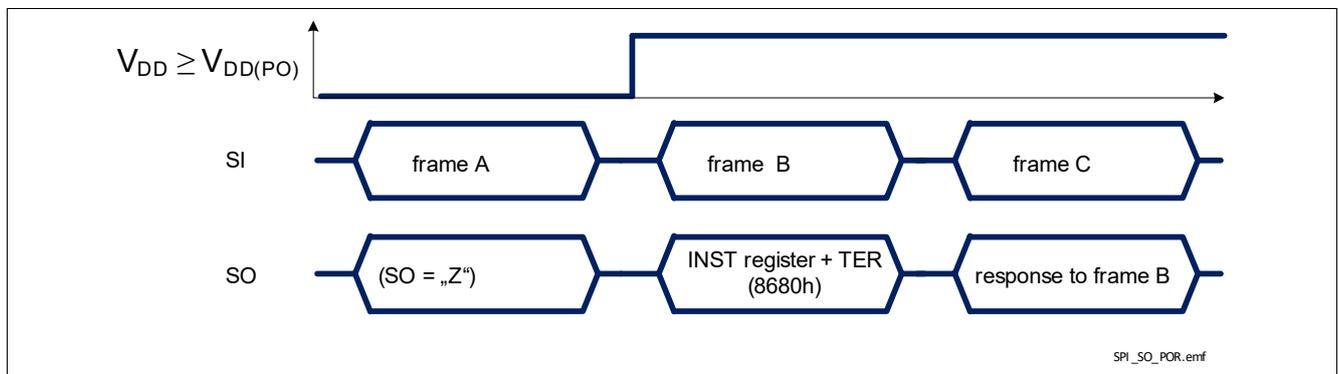

Figure 34 TLE75602-ESD response after coming out of Power-On reset at  $V_{DD}$
- when TLE75602-ESD logic supply comes out of Power-On reset condition or after a Software Reset, as shown in **Figure 34**